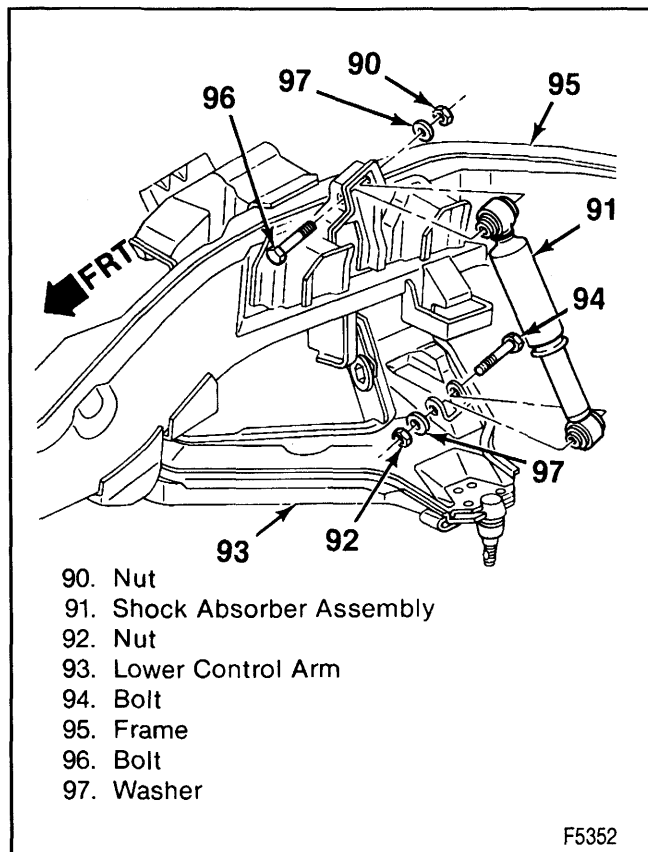

Figure 27—Shock Absorber Attachment
Remove or Disconnect (Figure 27)
Install or Connect (Figure 27)
1. Shock absorber (91) to the bracket.
- Fit the bolts (94 and 96) in the direction shown in figure 27.